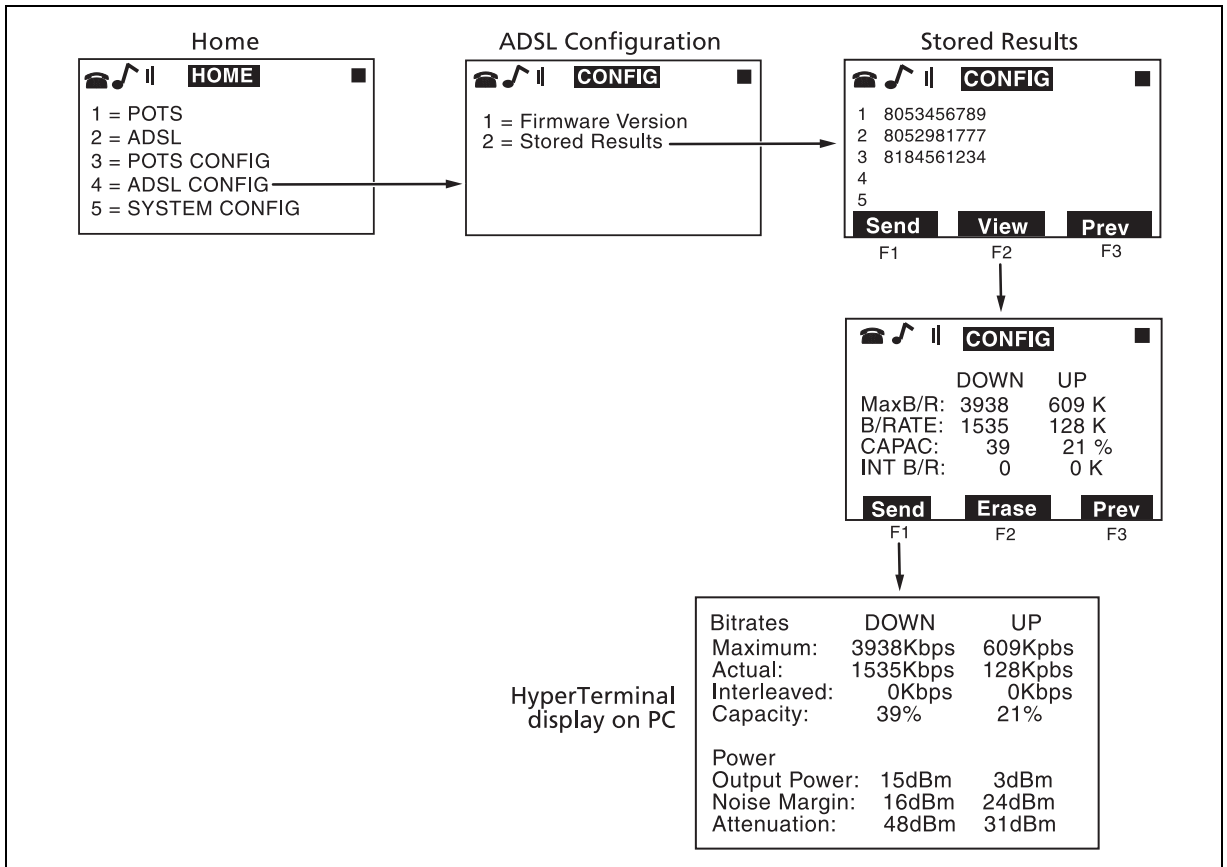

Figure 2-3. Selecting and Downloading Stored Results
- 3 Use the arrow keys or the numeric keypad to select the results you would like to transfer (1-5). Optionally, select **F2 - View** to view the results on your TS1200 (see Figure 2-3).